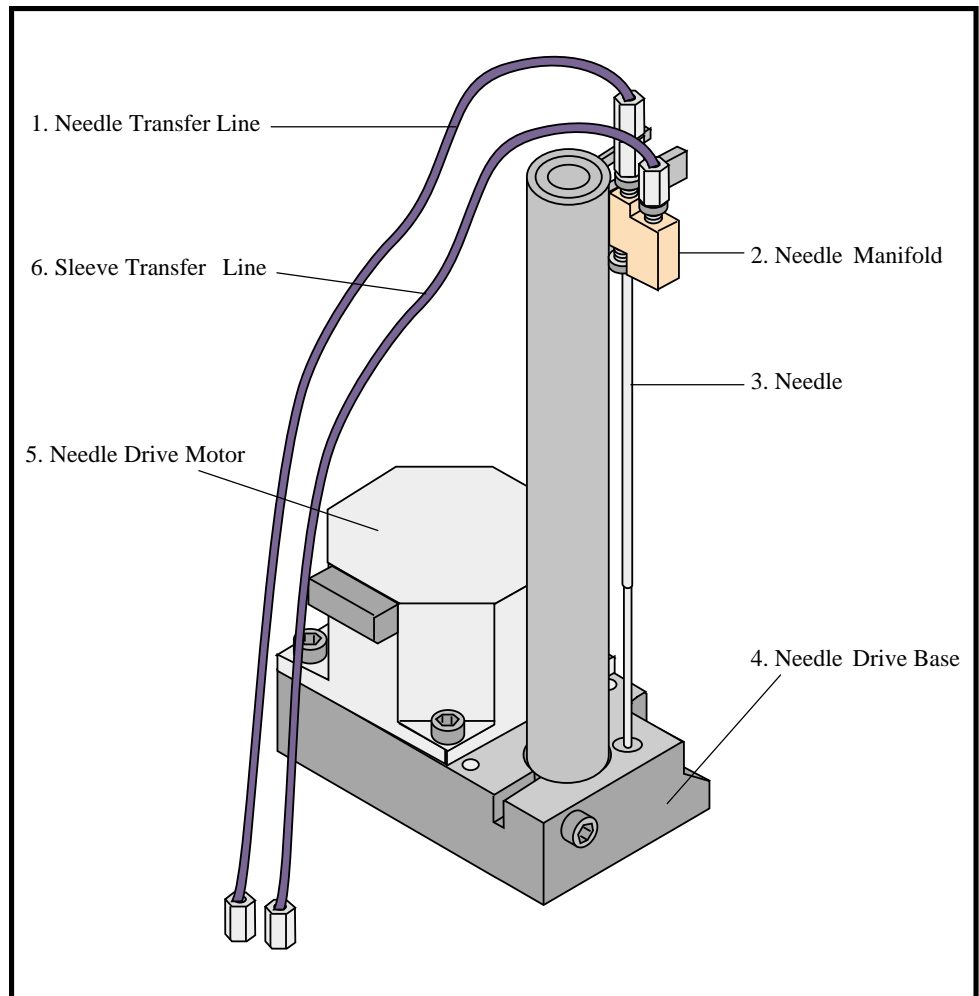

Figure 2.4. Needle Drive Assembly
- 2. Needle Drive Assembly** raises and lowers the needle piercing assembly (see Figure 2.4).